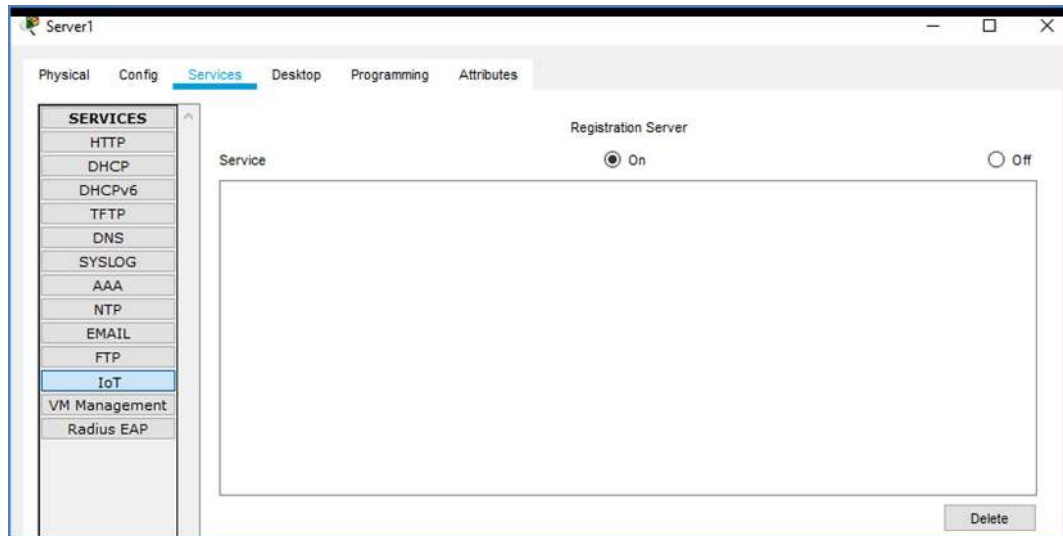

Figure 9.3: Turning On the IoT Service on the Server
- Select **IoT** from the left pane, and click the **On** button to activate it (Figure 9.3).